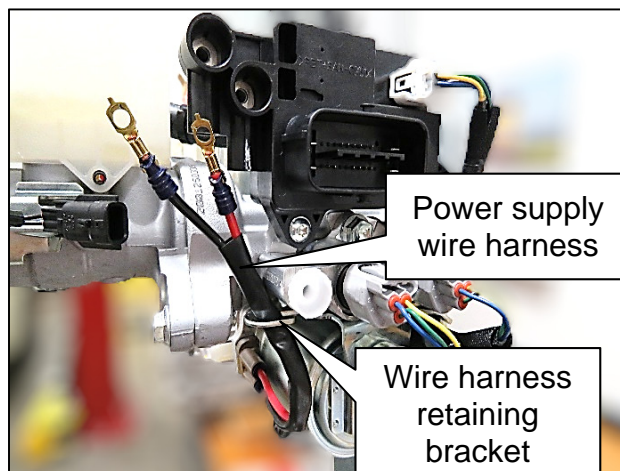

Figure 25
21. Insert the power supply wire harness into the wire harness retaining bracket, as shown in Figure 25.